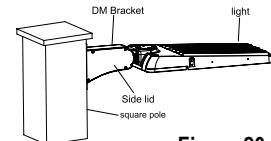

Figure 20
2. Put the connected wires into the junction box and seal it with the side lid. (see Fig. 20)